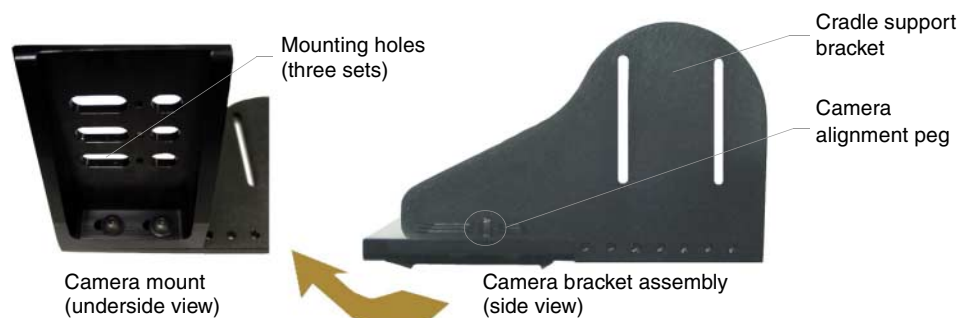

FIG. 15 Camera bracket assembly
1. Separate the camera mount and the cradle support bracket by removing the two ½" screws on the underside of the assembly (see FIG. 15) using a 3/32 Allen wrench.
3. Secure the camera/lens to the mount (at the camera attachment peg) with the screw and fastener supplied with the camera/lens (see FIG. 15).